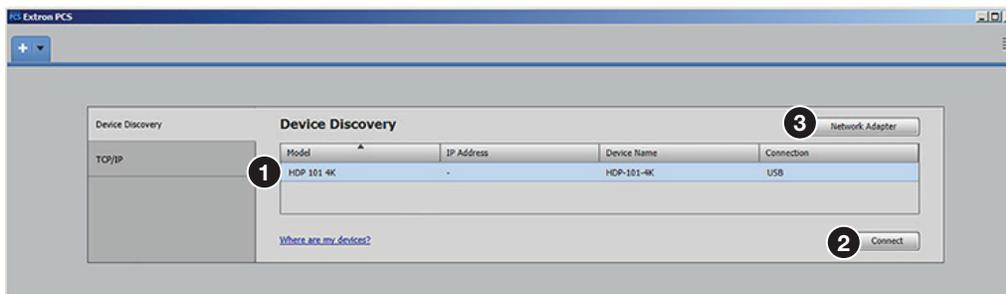

Figure 7. PCS Device Discovery Screen
3. Select the HDP 101 4K device by clicking on it to highlight it in the list (see figure 7, **1** on the previous page).